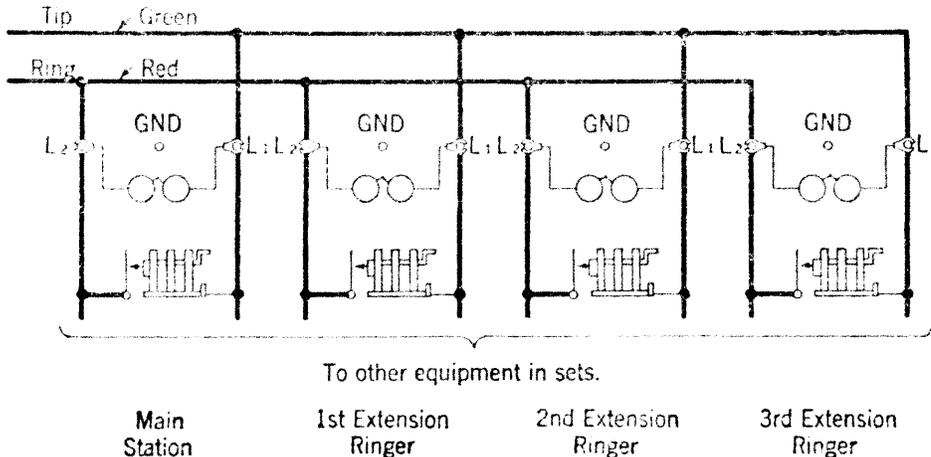

Fig. 8.
5.11 **Main Station and Extension Station with Ringer:** Connect according to main station and first extension station, Fig. 8.